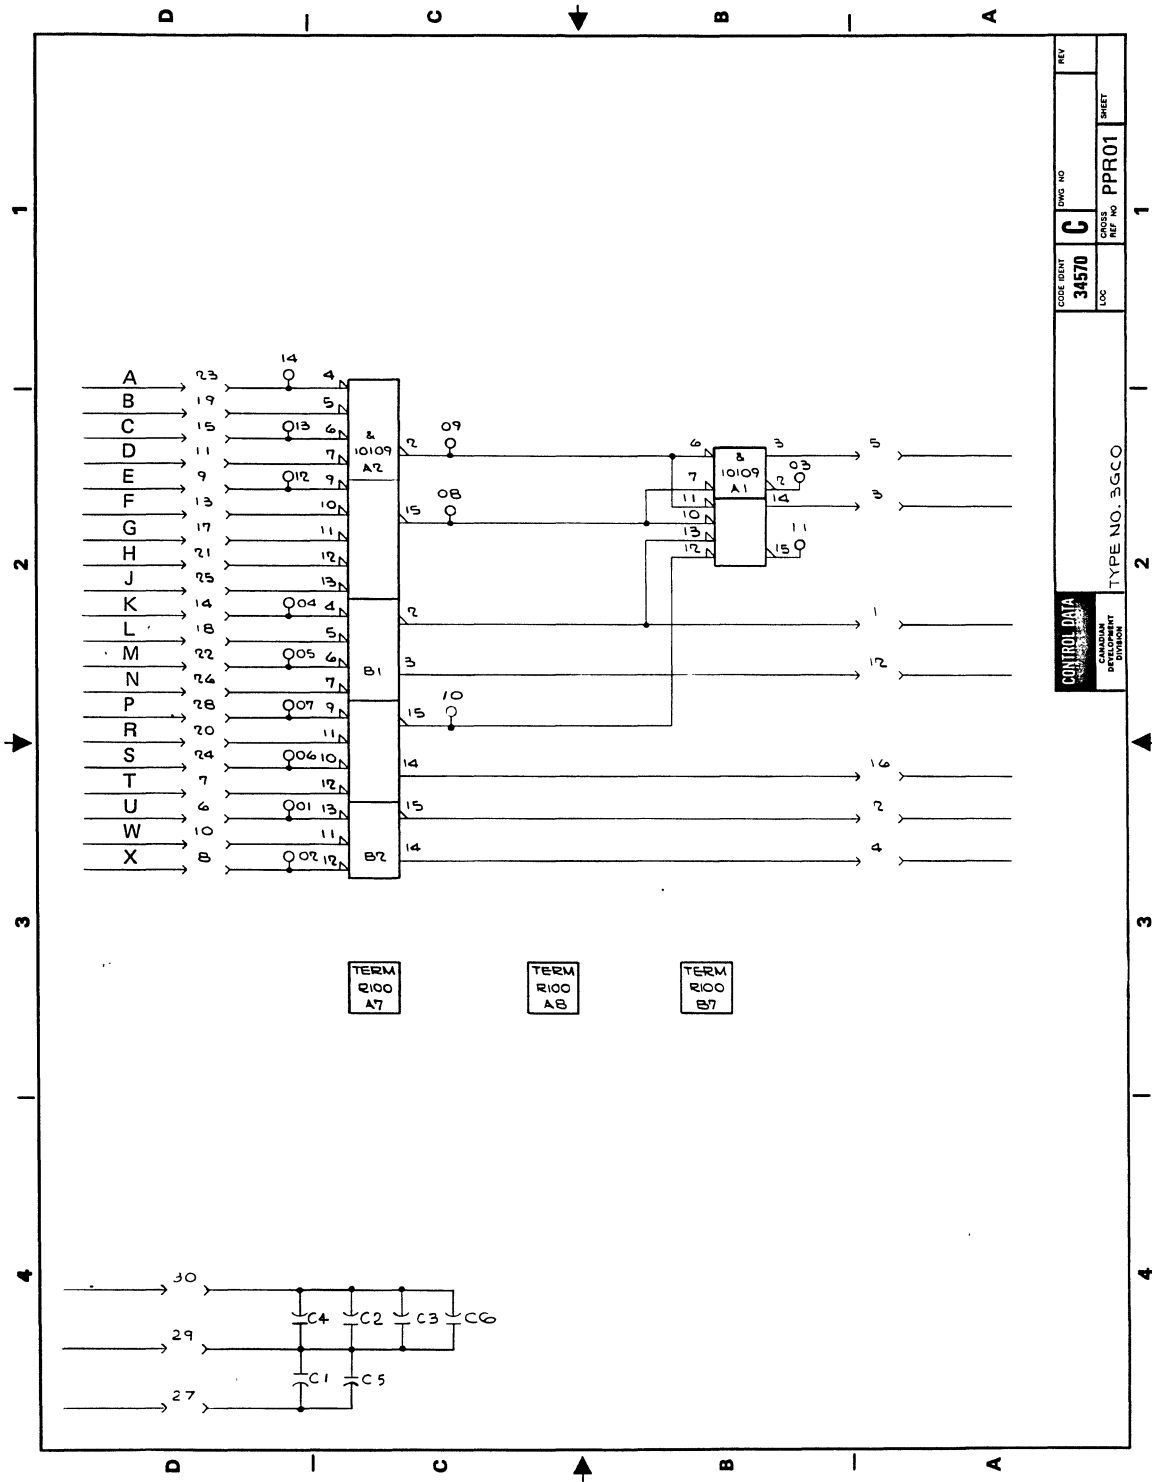

Figure 2-18. Control Logic Diagram
Directions: The logic diagram that is used in this exercise is taken from a control section of the CYBER 170 system. Study the logic in figure 2-18. Then answer the following questions about its functions.
1. What is the pack type in figure 2-18? 3GC0